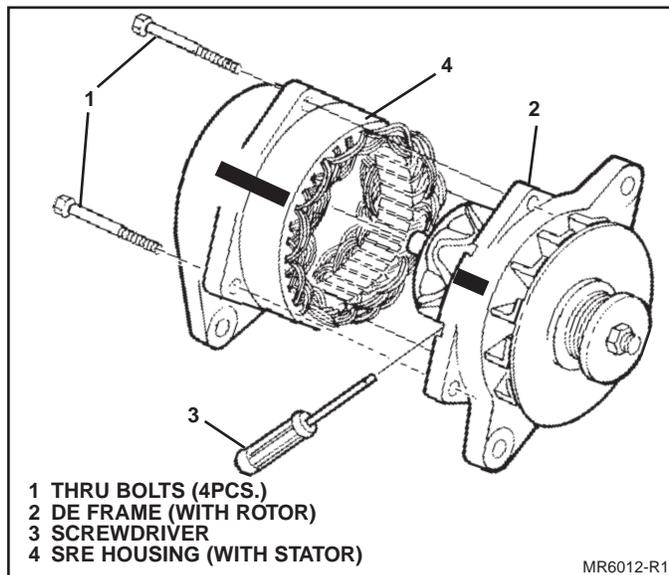

Figure 13. Disassembly of Alternator
3. Separate DE frame (with rotor) from SRE housing (with stator). If necessary, carefully pry DE frame from edge of stator with screwdriver (Fig. 13). After separation, place tape over SRE bearing inside unit to prevent dirt from entering during checks.